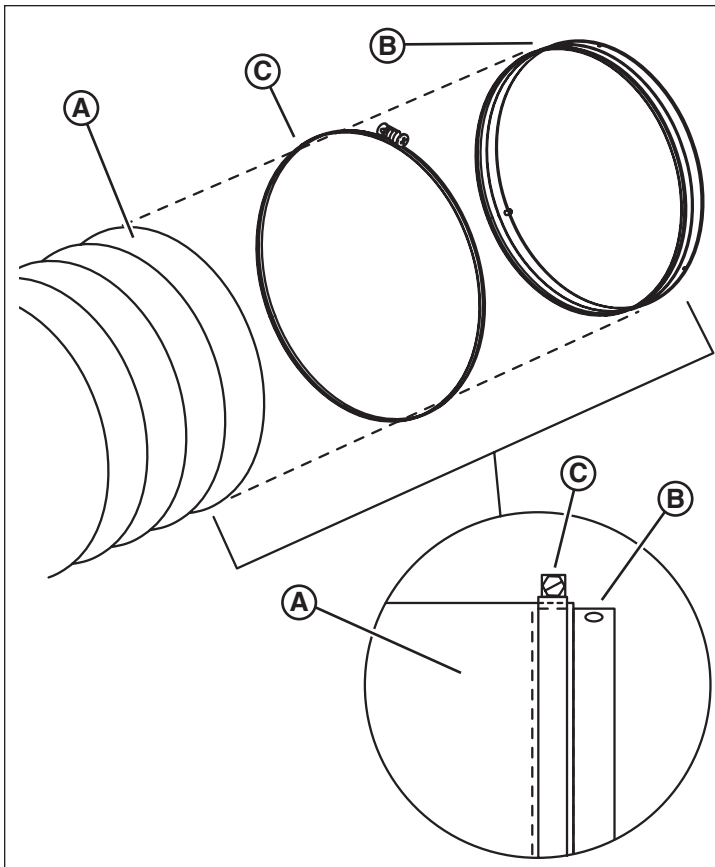

Figure 18
1. Install the flexible ducting (A, Figure 18) over the connecting band (B). The flexible ducting should cover only half of the connecting band (inset), allowing the lock pins and arrows to be visible on the remaining half. Secure using a large screw type band clamp (C).